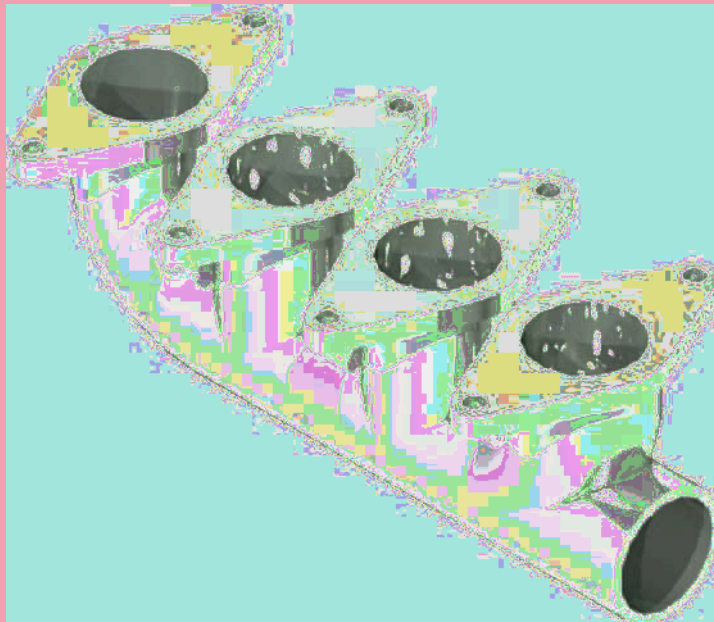
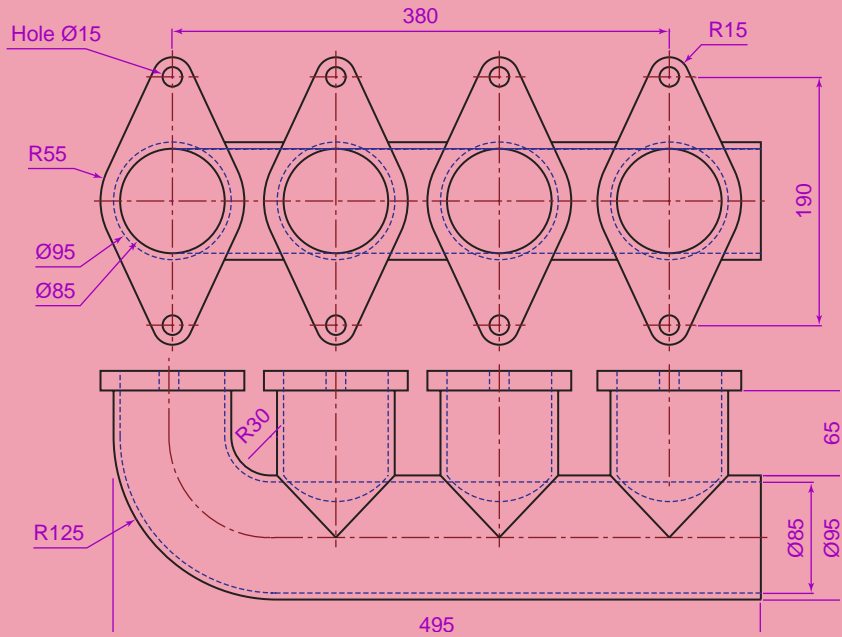

Fig. 19.20 Exercise 3 – ViewCube/Isometric view
Fig. 19.21 Exercise 3
- Construct a 3D model drawing to the details given in Fig. 19.21. Add suitable lighting and apply a material, then render as shown in Fig. 19.20.